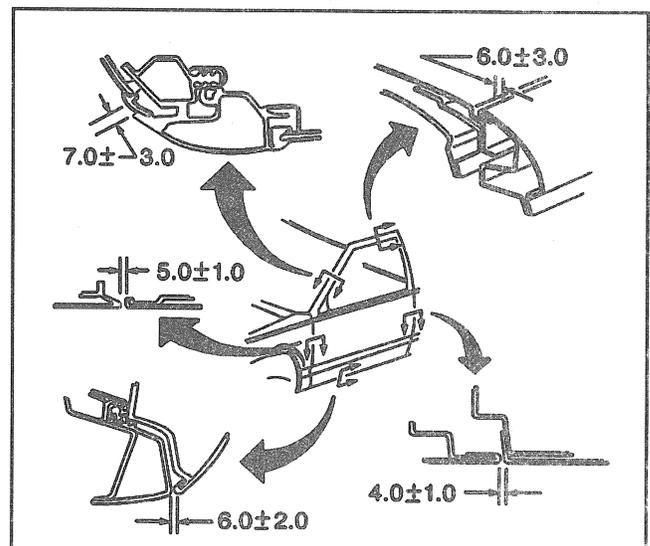

Figure 22—Door Adjustment Specifications
2. Gap between the rocker panel and the door to the specifications shown in Figure 22.